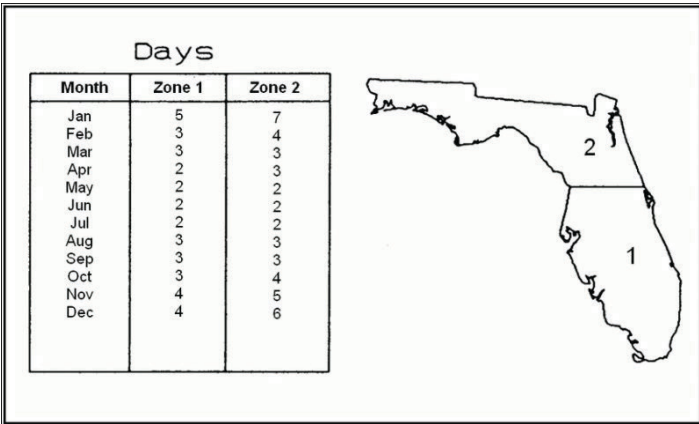

Figure 4. Number of days soil-water stored in the root system will last before irrigation or rain is required.
- *Estimations based on climatic records.* Past history of climate can be used to estimate how often irrigation should be applied to turf. Figure 4 shows the expected number of days that soil-water will last for a typical Florida sandy soil that can hold 1 inch of water per foot of soil and is irrigated to a depth of one foot. If your root depth and soil-water holding capacity are different, multiply the number of days in Figure 4 by the value of your root depth and then by the value of your soil-water holding capacity.
Irrigate by demand. Apply water only when the soil has been depleted. Always apply only the amount of water that is required to refill the soil. Change the frequency with which you irrigate and not the amount of water applied. As a guideline use the irrigation intervals in Figure 4. Keep track of the time since the last rain or irrigation to determine when the next irrigation is due. (If it is a light rain, you will have to compensate.) Do not apply daily light irrigations (less than $\frac{1}{4}$ " depth of water). It has been shown that deep irrigations (more than $\frac{2}{3}$ " depth of water) applied less frequently provide better turf quality.